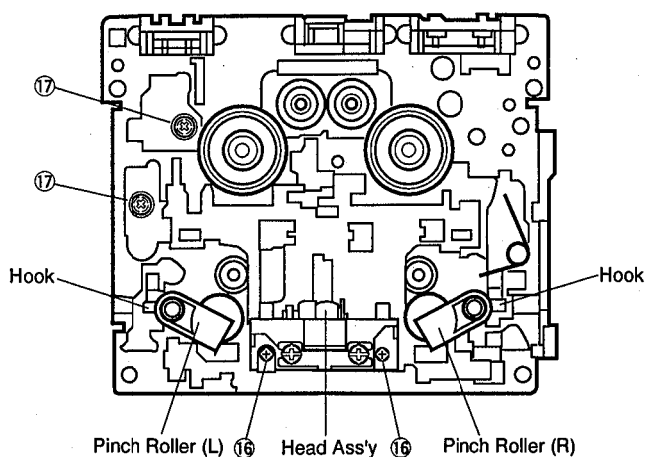

Fig. 15
Detach the hook and then remove the Pinch Roller in Fig. 15.
Remove 2 screws (16) and then remove the Head Ass'y in Fig. 15.
Remove 2 screws (17) in Fig. 15.